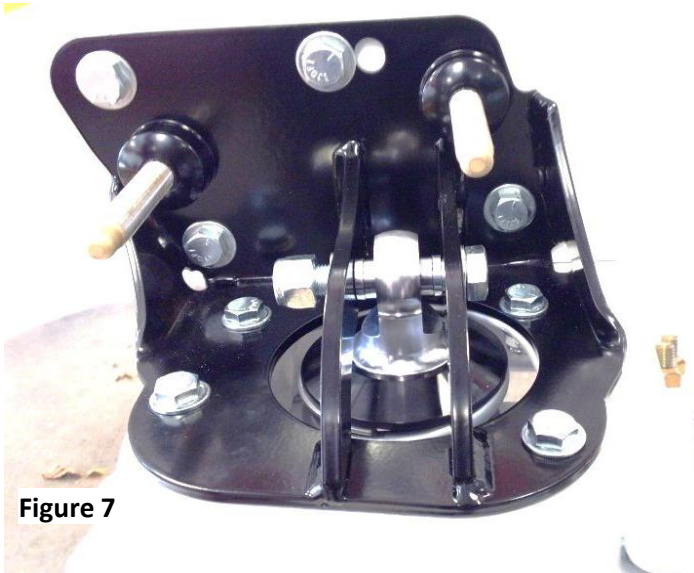

Figure 7
- Install the assembled shocks up through the spring pocket and install the 1/2" x 2 1/2" blots, washers and nuts. P/N 9033-430 spacer will need to be installed on each side of the spherical bearing as the shock is bolted into place. See **Figure 7**.